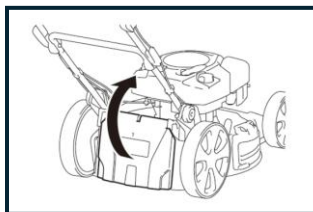

FIG 4A
1. To install the grass catcher, lift the rear discharge guard and fit the catcher as shown in Figures 4A, 4B, and 4C.